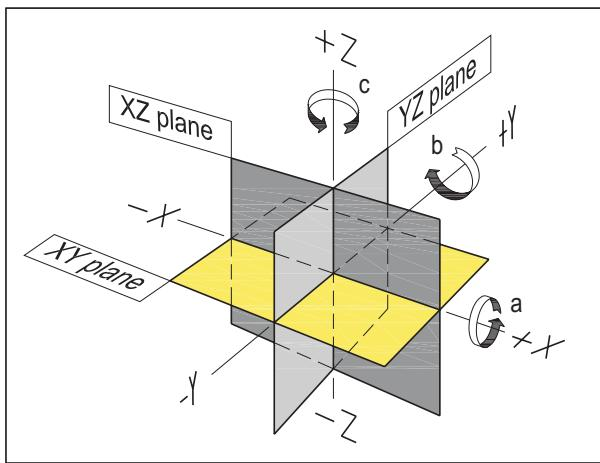

Figure 4-8
*Machine geometry* defines the relationship of distances and dimensions between *fixed point of the machine* and *selectable point of the part*. Typical geometry of CNC machines uses the right hand coordinate system. Positive and negative axis direction is determined by an established viewing convention. The general rule for Z-axis is that it is always the axis along which a simple hole can be machined with a single point tool, such as a drill, reamer, wire, laser beam, etc. Figure 4-8 on the next page illustrates standard orientation of planes for XYZ type machine tools.